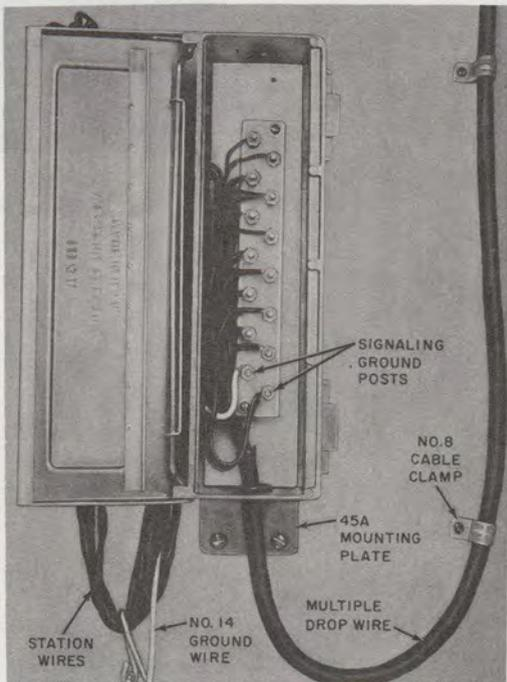

Fig. 1—Wiring of 104A Wire Terminal
**2.01** The 104A wire terminal shown in Fig. 1 employs a mounting similar to a 10-pair, N-type distribution terminal, but is equipped with a terminal block having facilities for connecting 6-pair multiple drop wire. Two binding posts on the extreme right are strapped together internally and are used for station signaling grounds.